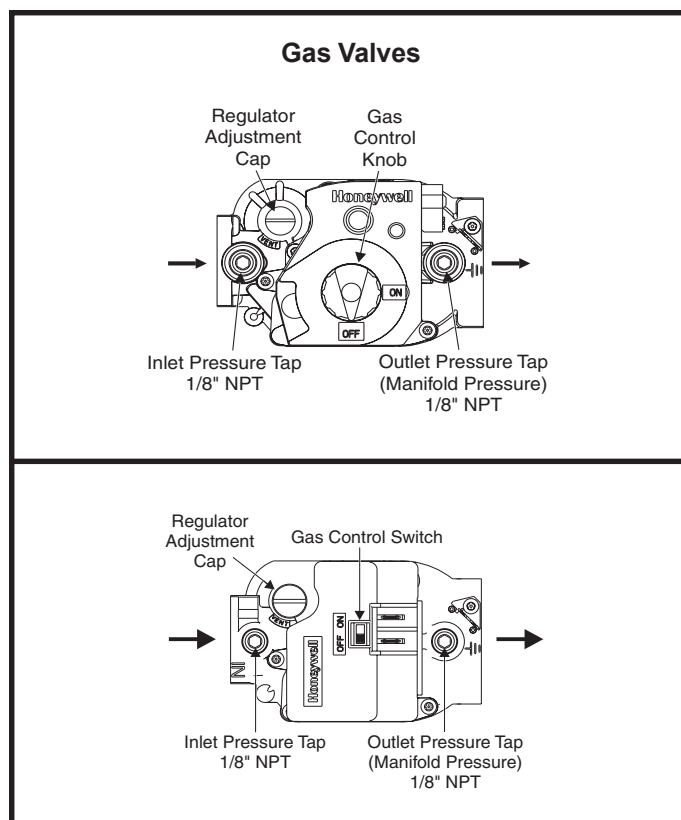

Figure 9
3. Turn the gas control knob, or slide the gas control switch, to the "ON" position (see Figure 9).
2. Turn the gas control knob, or slide the gas control switch, to the "OFF" position (see Figure 9).
The manifold pressure can be measured by shutting off the gas, removing the pipe plug in the downstream side of the gas valve, and connecting a water manometer or gauge. To adjust the regulator, turn the adjusting screw on the regulator clockwise to increase pressure and input or counterclockwise to decrease pressure and input. **The final manifold pressure should not vary more than 0.3" w.c. from the above specified pressure.** See Figure 9 to assist in locating the regulator on the gas valve.